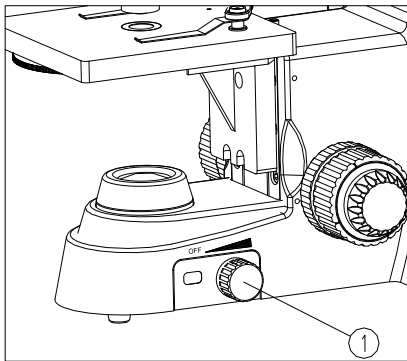

Fig.2
5. For safety, make sure the power knob① is rotated counterclockwise to the minimum before replacing the bulb, and wait until the bulb and base cool down completely (see Fig. 2).